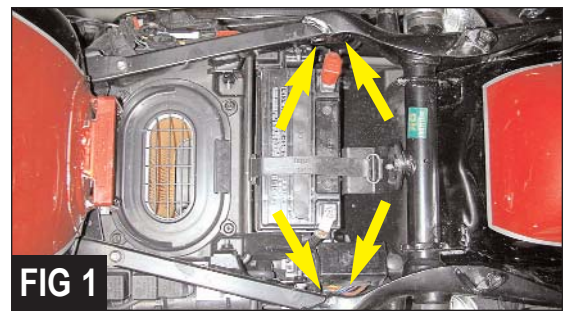

FIG 1
2. Locate the holes in your bikes frame (*Figure 1*).
3. Install the Corbin bracket #A01012 in the location in Figure 1 and secure with the supplied m6 x 30mm hex head screws and flat washers on the inside of the frame and the supplied m8 x 20mm hex head bolt and chrome flat washers on the outside of the frame (*Figure 2*). Tighten to 6 ft. lbs.